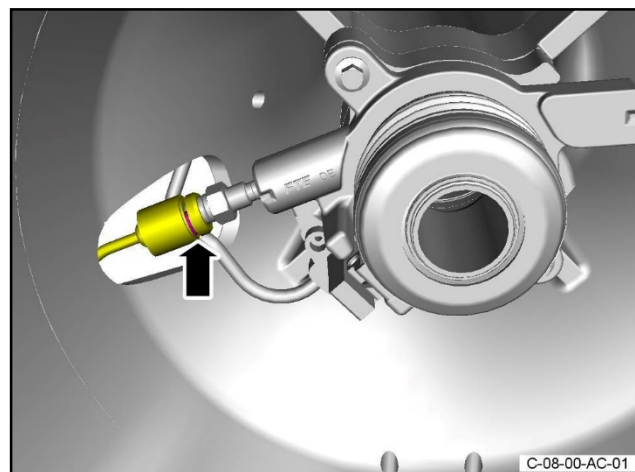

Figure 9
13. Install the spring clip that attaches the bleed pipe to the slave cylinder (refer to Figure 9).